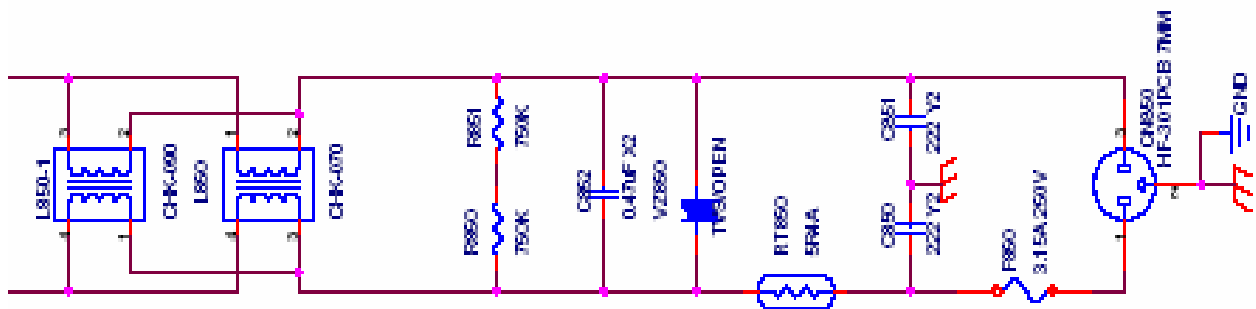

Fig.5
2.2.2) AC Input and EMI Filter:(fig.5)